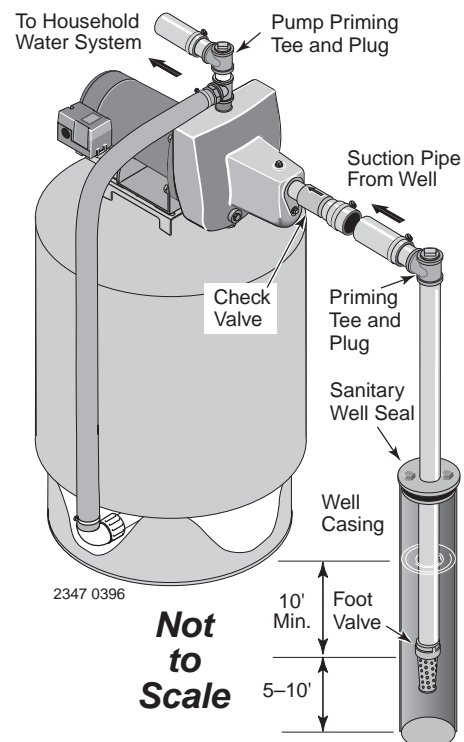

Figure 2: Cased Well Installation
CASED WELL INSTALLATION, 2" OR LARGER CASING (FIGURE 2)
2. Assemble the foot valve, strainer, and well pipe (see Figure 2). Make sure that the foot valve works freely.
4. Install a priming tee, priming plug, and suction pipe to the pump (see Figure 2). Connect the pipe from the well to the pump suction port, using the fewest possible fittings – especially elbows – as fittings increase friction in the pipe (however, include a foot valve – see Figure 2). The suction pipe should be at least as large as the suction port on the pump. Use teflon tape or a teflon-based pipe joint compound on threaded pipe joints. Support the pipe so that there are no dips or sags in the pipe, so it doesn't strain the pump body, and so that it slopes slightly upward from the well to the pump (high spots can cause air pockets which can air lock the pump). Seal the suction pipe joints with teflon tape or a teflon based pipe joint compound. Joints must be air- and water-tight. *If the suction pipe can suck air, the pump cannot pull water from the well.*